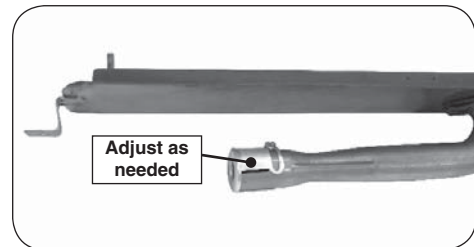

Fig. 52-3 Adjust air shutter
7. Adjust the air shutter (by hand) as needed (see Fig. 52-3).